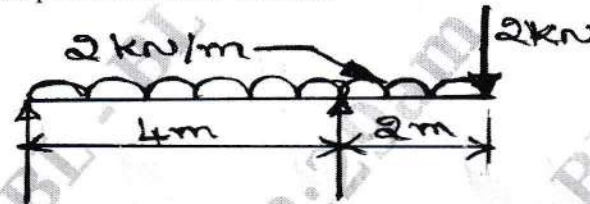

Fig.Q.5(b)
b. Draw the shear force and bending moment diagrams for the overhanging beam, carrying uniformly distributed load of 2kN/m over the entire length and a point load of 2kN as shown in Fig.Q.5(b). Locate the point of contra-flexure. (14 Marks)